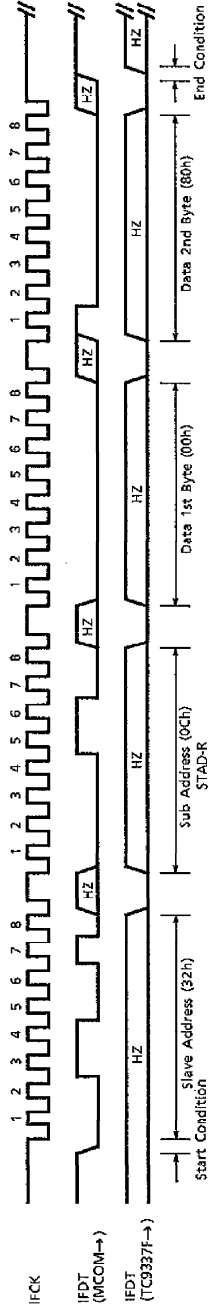

Fig. 10-2
- Ex2. Figure 10-2 to 10-4 shows examples of set to coefficient data at coefficient RAM (sub address 09h). After microcontroller set to coefficient address 080h at start address register and transfer coefficient data FFFh, 7FFFh, C000h and 4000H at coefficient RAM.